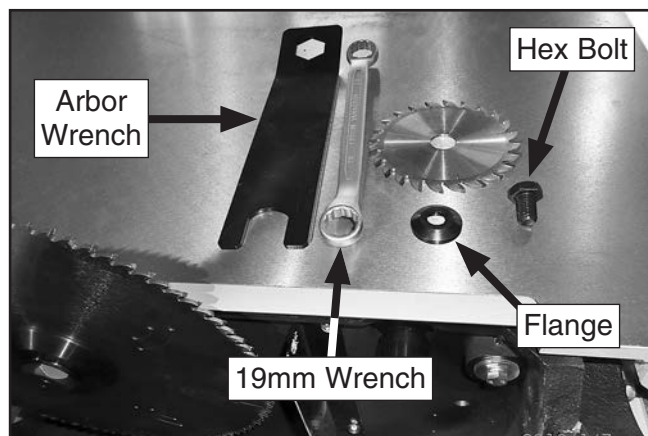

Figure 94. Scoring blade, flange, arbor hex bolt, 19mm wrench, and arbor wrench.
- Use 19mm wrench to unthread arbor hex bolt counterclockwise (left-hand threads), and remove arbor hex bolt, flange, and blade (see **Figure 94**).